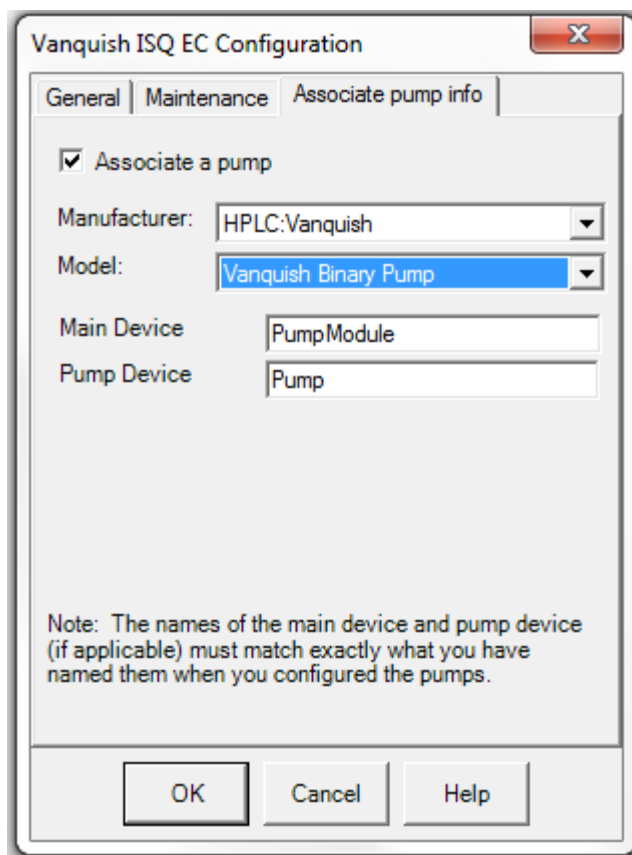

Figure 73: MS configuration— Entering the device names
- 29) Enter the **Main Device** and **Pump Device** names. The names must match the ones for the pump. See Figure 73.